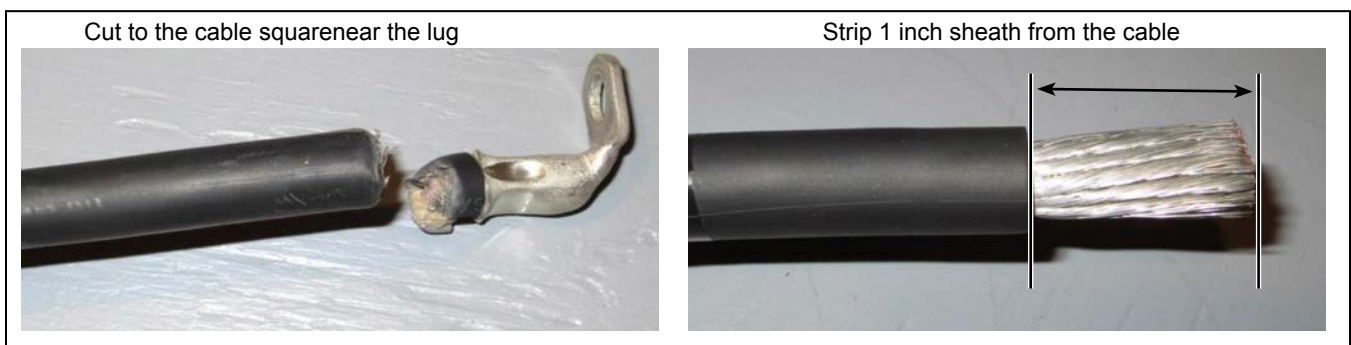

Figure 3 - Lug and Sheath Removal Detailed
- 1.8. Cut the cable square, near the lug using the appropriate tool. See Figure 3.
- 1.10. Strip a length of 1 inch at the cut end to expose stands of the cable. Be careful to keep the strands together to ease insertion of the new connector. See Figure 3.